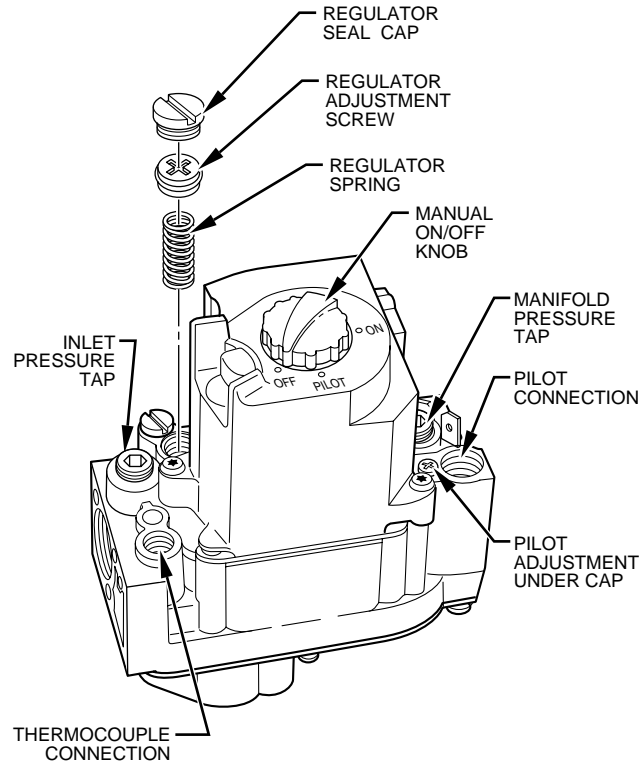

Fig. 6—Honeywell Gas Valve
2. Remove regulator seal cap. (See Fig. 6.)
2. Remove 1/8-in. pipe plug from inlet pressure tap on gas valve. (See Fig. 6.)
2. Remove 1/8-in. pipe plug from manifold pressure tap on downstream side of gas valve. (See Fig. 6.)
- a. Locate adjustment screw on top of gas valve. (See Fig. 6.)
5. Remove manometer and replace manifold pressure tap plug. (See Fig. 6.)